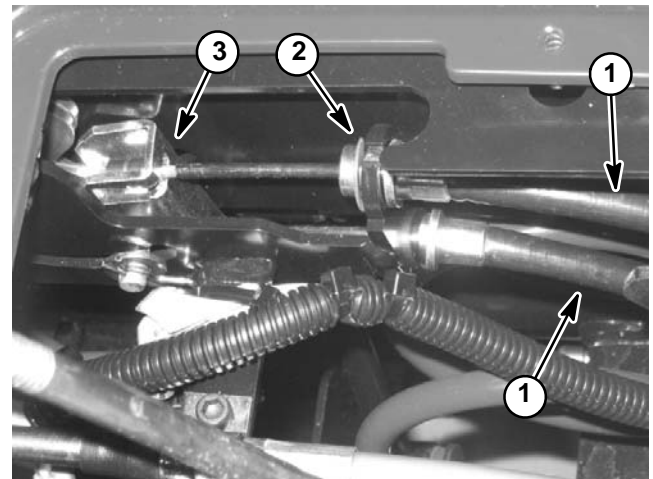

Figure 14
8. Disconnect brake cable from cable equalizer bracket (Fig. 14).
3. Install brake cable end to brake equalizer on parking brake lever. Secure brake cable to lever support assembly with retaining ring (Fig. 14).